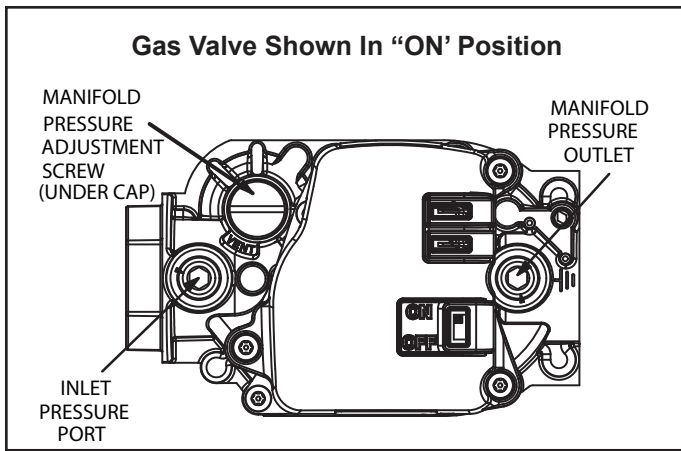

Figure 61.
See Figure 61
6. Move gas valve switch to OFF. See Figure 61.
8. Move gas valve switch to ON. See Figure 61.